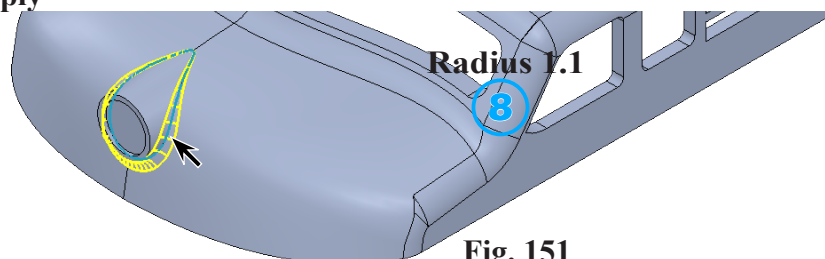

Fig. 151
- ⑧ **Radius**  1.1
click edges of headlight at Hatch (2), Fig. 151